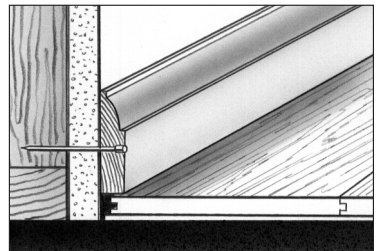

Fig. 19
2. Always predrill transitions or mouldings prior to nailing. To allow the floating floor to move freely, **do not** fasten the trim to the laminate flooring (Fig. 19).